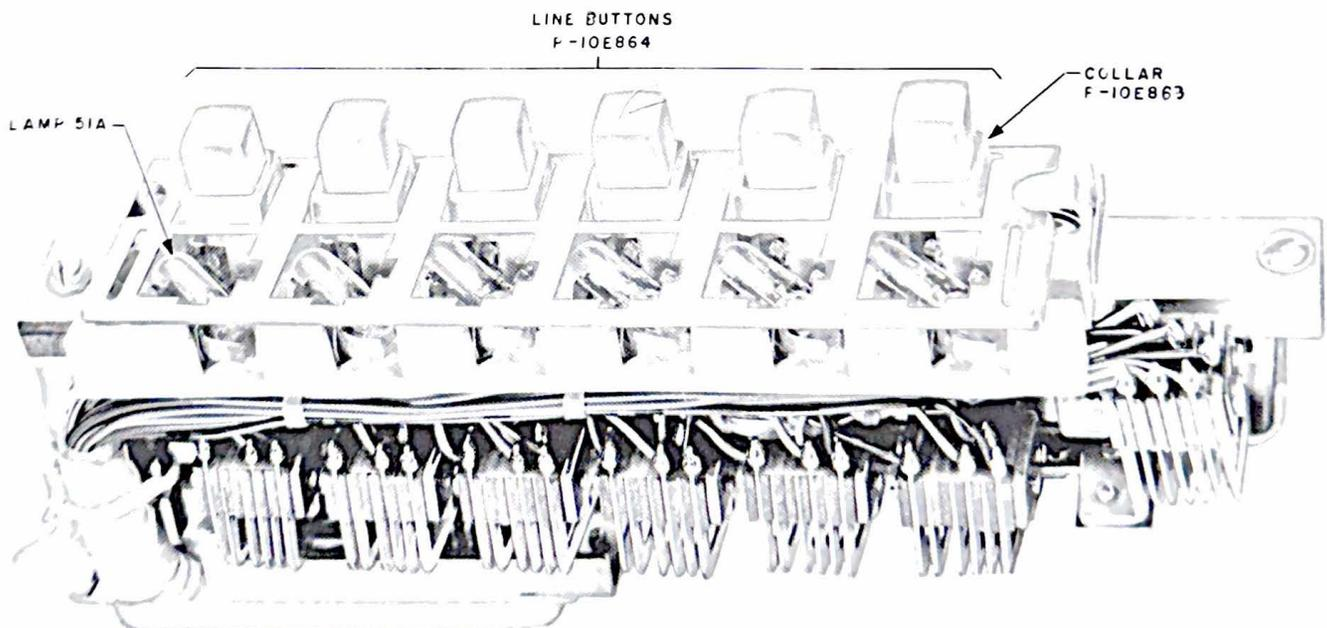

Fig. 9 - 598A Key
7.01 The 598A key (see Fig. 9) consists of six convertible locking-type buttons and lamps for illuminating each button and its adjacent designation area. The buttons may be converted from locking to nonlocking for signal use by removing the P-10E837 screws as necessary. (When keys are converted to nonlocking, use the P-11E977 insulating details to insulate the two contacts adjacent to the key plunger.) All buttons are interlocked mechanically so that operation of a pickup button will release any previously operated button. A chaining switch consisting of three normally closed contacts electrically interconnects adjacent keys. The chaining switch operates when